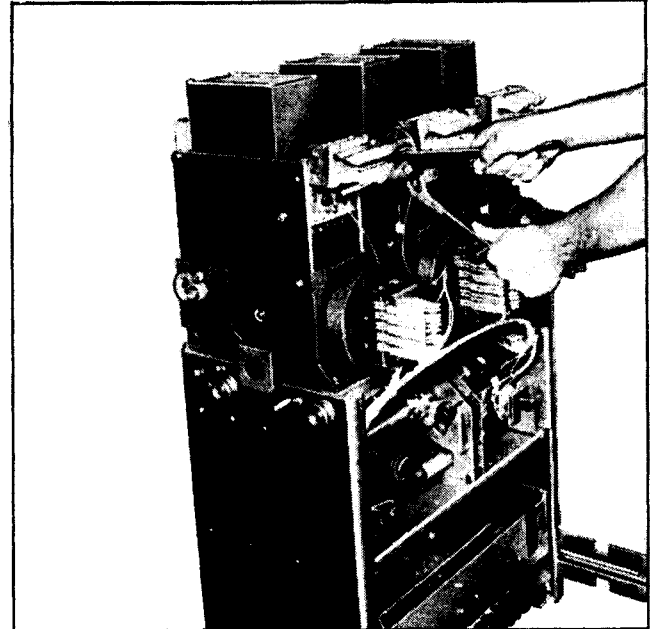

Fig. 40 Disconnect Finger Removal on CMD Network Protectors
5. The disconnect finger clusters may be removed by using tool S#591C901G01 as shown in Fig. 40.